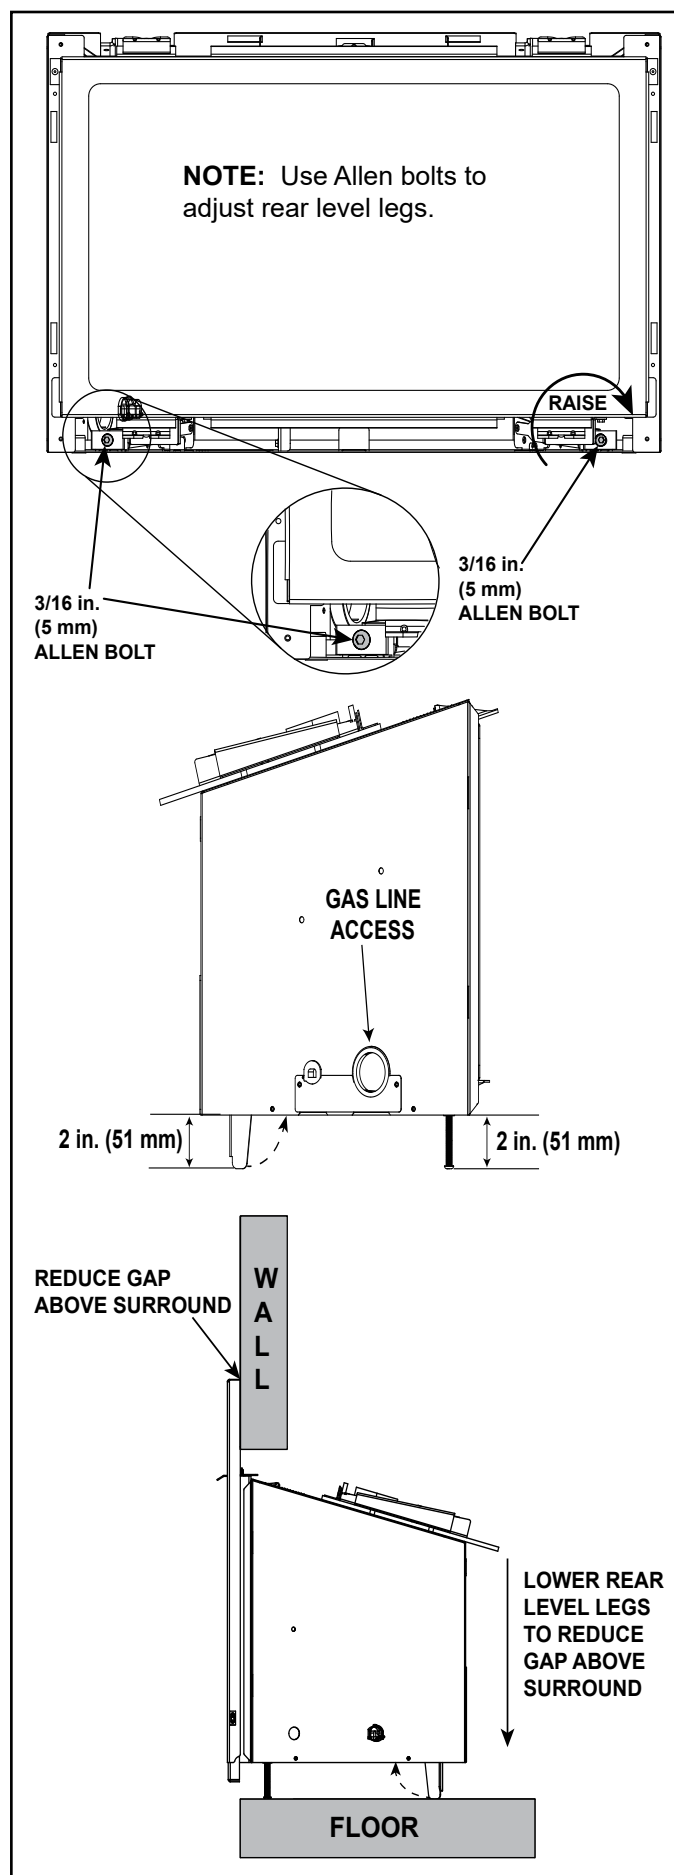

Figure 5.13 Leveling Leg Detail
- Install gas line into hole provided on side. See Figure 5.13.